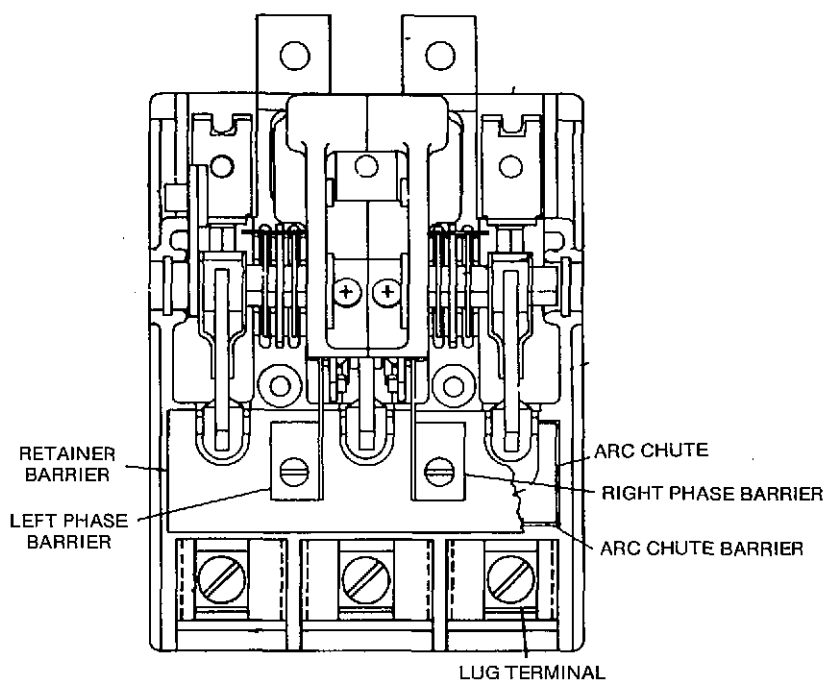

FIGURE 17. INSULATING BARRIERS AND ARC CHUTES
10. Remove the pan head screws that secure the left and right phase barriers and retainer barriers (see Figure 17) to the switch assembly; and lift out the phase barriers, retainer barriers, arc chutes, and arc chute barriers. Discard arc chutes and arc chute barriers.